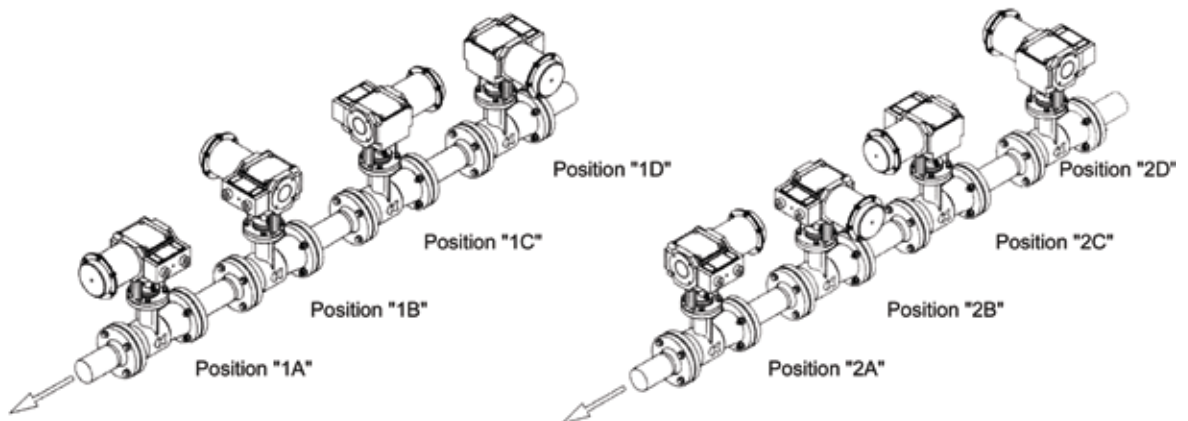

Fig. 5. Possible actuator type P/R-99 positions to valve axis.
Adjustment of rotation angle of actuator type 99 (patent pending) via system of two levers. **Lever (22)** attached to **diaphragm (24)** plate always turns by 30°, hence stroke, pressure range and positioner feedback lever position do not change. With change in setting of **bearing pin (27)** turn angle of **crankshaft (23)** (and also valve shaft) changes too, within values 25°, 45°, 60° and 90°, which corresponds with changes in flow ratio values to 45%, 75%, 100% and 120% Kvs. In closed position of valve movement of bearing pin to crankshaft guide at the beginning of lever rotation is parallel, hence closed position of valve is maintained. **Connector (35)**, which connects actuator to valve shaft, allows turning of actuator to valve by each 90°, and since it is accessible from outside it eliminates the need for actuator or valve disassembly. Required position (see Fig.5) can be set by manufacturer as per customer's request.